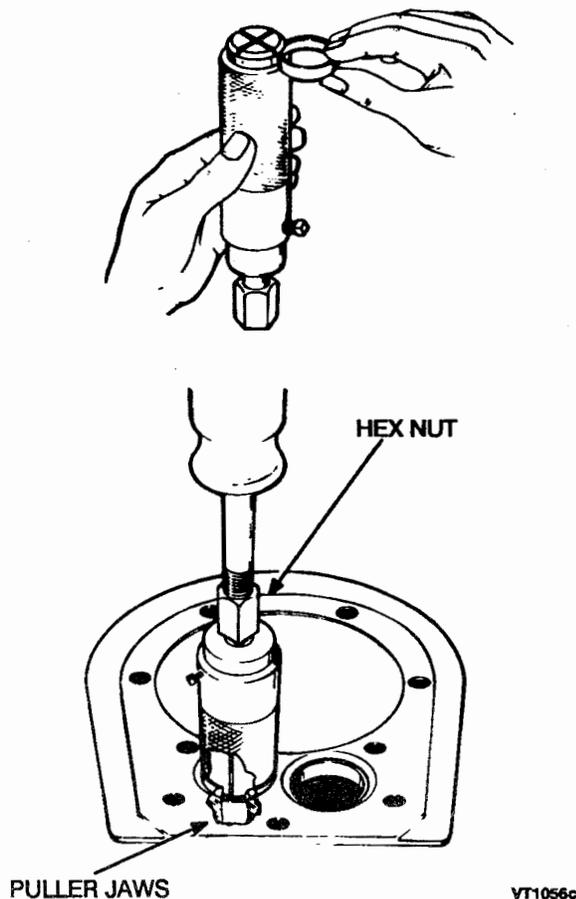

FIGURE 9-12. VALVE SEAT REMOVAL
2. Select the proper size puller (determined by the inside diameter of the valve seat). The puller jaws must expand into the cylinder block at the point where the bottom of the valve seat insert rests on the cylinder block (Figure 9-12).